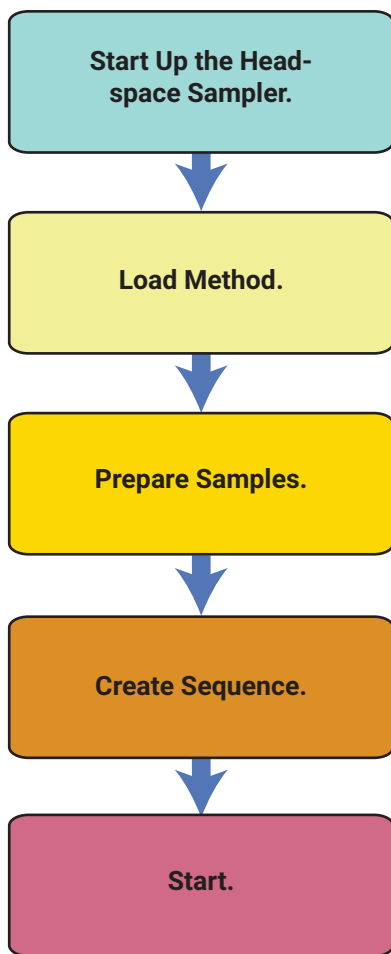

Figure 5. Routine headspace analysis workflow
**Figure 5** summarizes the normal operating workflow for headspace analysis. This workflow assumes that the headspace sampler is set up and that the methods and samples are known.